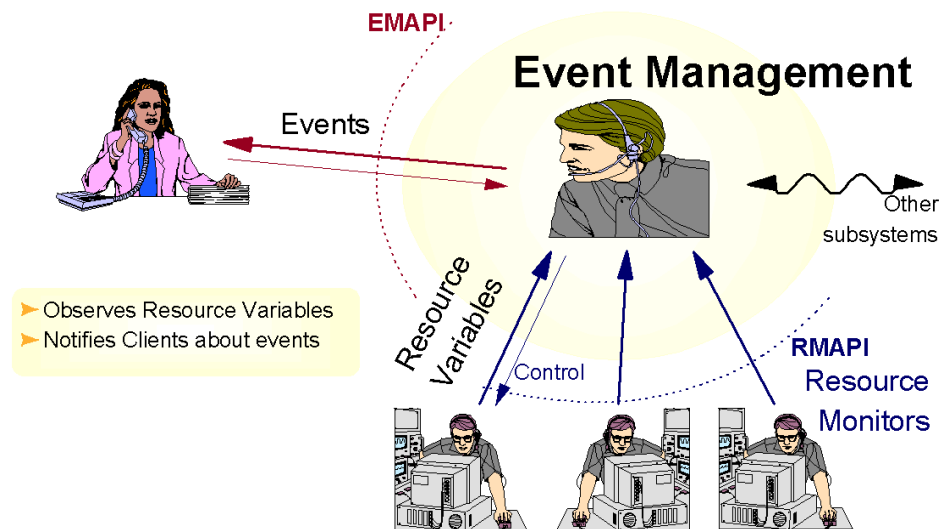

Figure 137. EM Design
Event Management (EM) provides an application comprehensive monitoring of hardware and software *resources* in the system. A resource is simply an entity in the system that provides a set of services. CPUs execute instructions; disks store data, and database subsystems enable applications. You define what system events are of interest to your application, register them with EM, and let EM efficiently monitor the system. Should the event occur, EM will notify your application. Figure 137 illustrates EM's functional design.